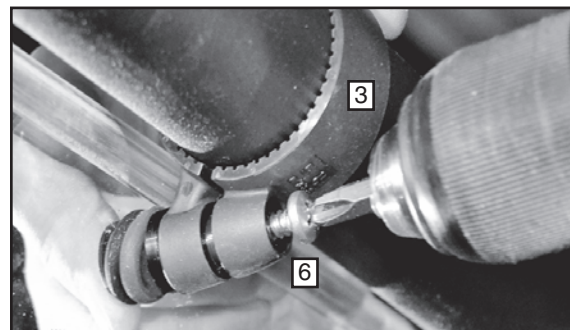

Figure 6
14. Securely tighten the Phillips Screws (6) in the four Wraparound Clamps (3). **Figure 6**